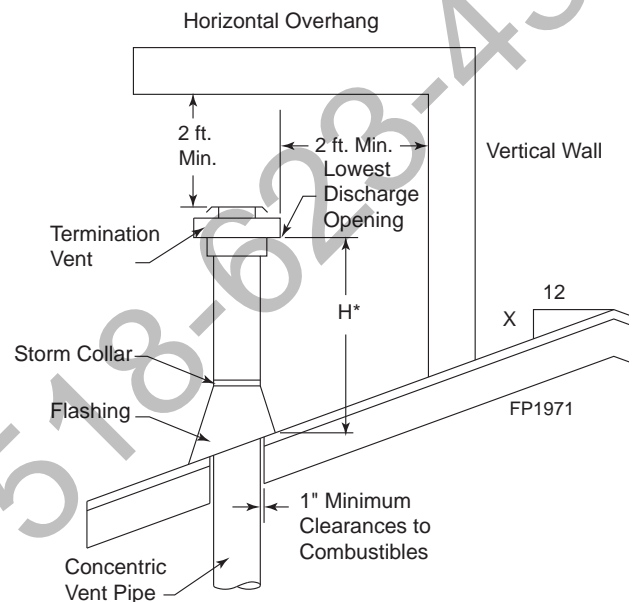

Figure 40 -
- For the minimum height of the vent above the highest point of penetration through the roof refer to Page 27, *Figure 40*.